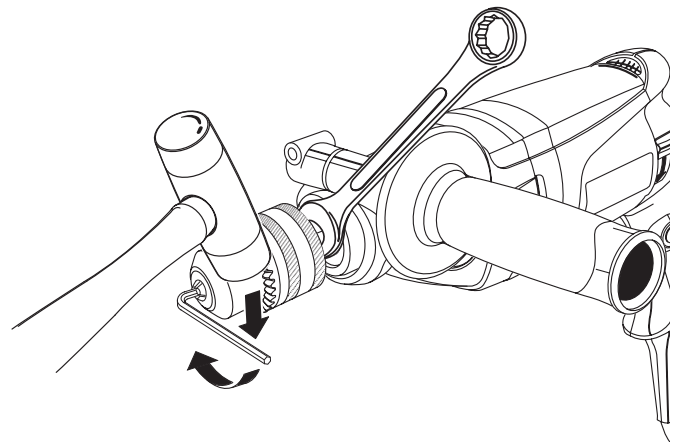

Fig. 9
See Figure 9 and 10.
4. Tap the hex key wrench sharply with a mallet in a clockwise direction. See Figure 9. This will loosen the screw in the chuck for easy removal.
See Figure 9.
3. Insert the hex key wrench into the chuck and tighten the chuck jaws securely. Tap the hex key sharply with a mallet in a clockwise direction. See Figure 9. This will tighten the chuck on the spindle.